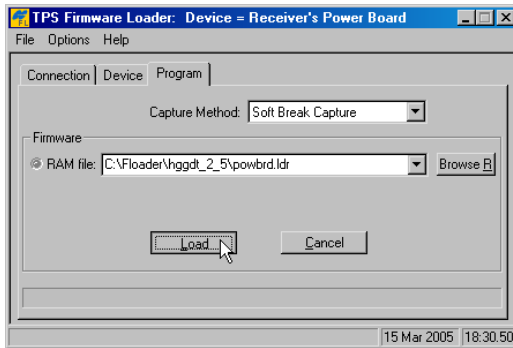

Figure 4-17. Program Tab Settings
- Click the **Program** tab and set the *Capture Method* to “Soft Break Capture” (recommended) (Figure 4-17).
- Browse for and select the Power board’s RAM file (Figure 4-17).